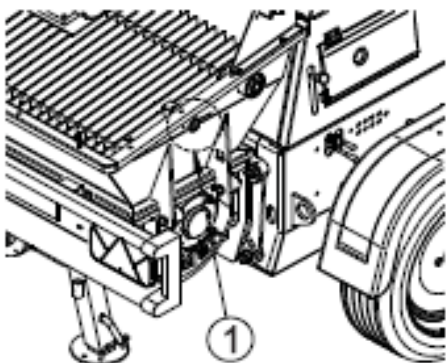

Fig. 1
Table 1 gives the technical specifications of the concrete pump, with reference to figure 1.
**4.1 DESCRIPTION OF CONCRETE PUMP (see fig 1)**
- Opening the grill on the upper hopper should stop the mixer in the lower hopper, the S valve and the pumping pistons by tripping the sensor (Fig 1 Ref. 1)